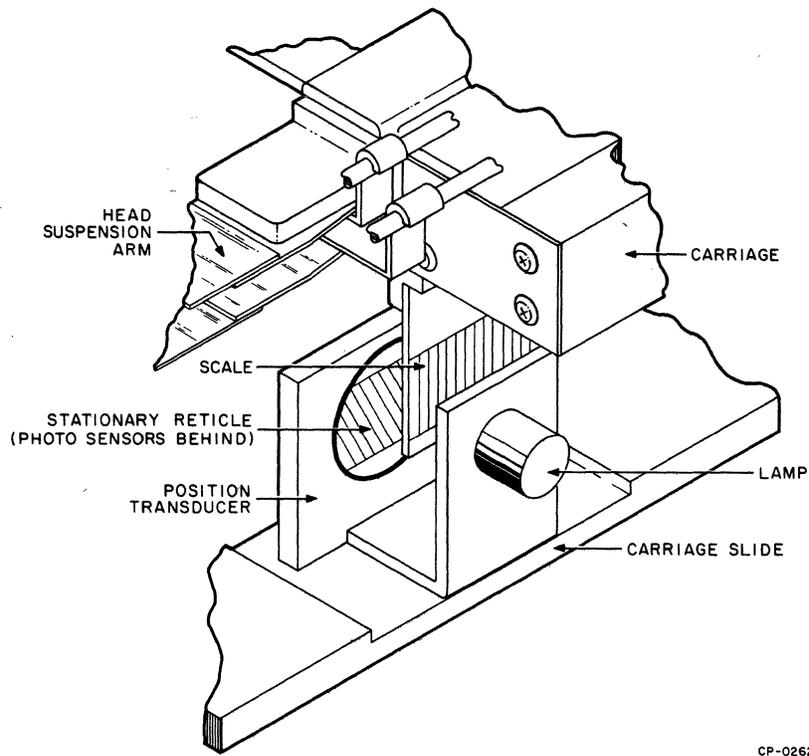

Figure 4-13 Linear Positioner Transducer
4.3.2.1 Linear Positioner Transducer – The positioner transducer (Figure 4-13), located on the underside of the carriage, is an optical device which consists of two parts. The stationary portion (reticle) of the transducer is constructed in a U shape and is attached to the carriage slide. One side of the U contains a lamp while the other side contains a stationary reticle with minute diagonal transparent slots, plus six photosensors located behind the slots. The movable portion (scale) of the transducer contains a similar section of minute vertical transparent slots and is attached to the movable carriage. As the scale moves in the middle of the U-shaped reticle, the vertical and diagonal slots allow varying light patterns to shine onto the photosensors. This action produces two sine wave output signals that occur 90 degrees out of phase. These signals (SIN POSITION and COS POSITION) are used to control the carriage movement.